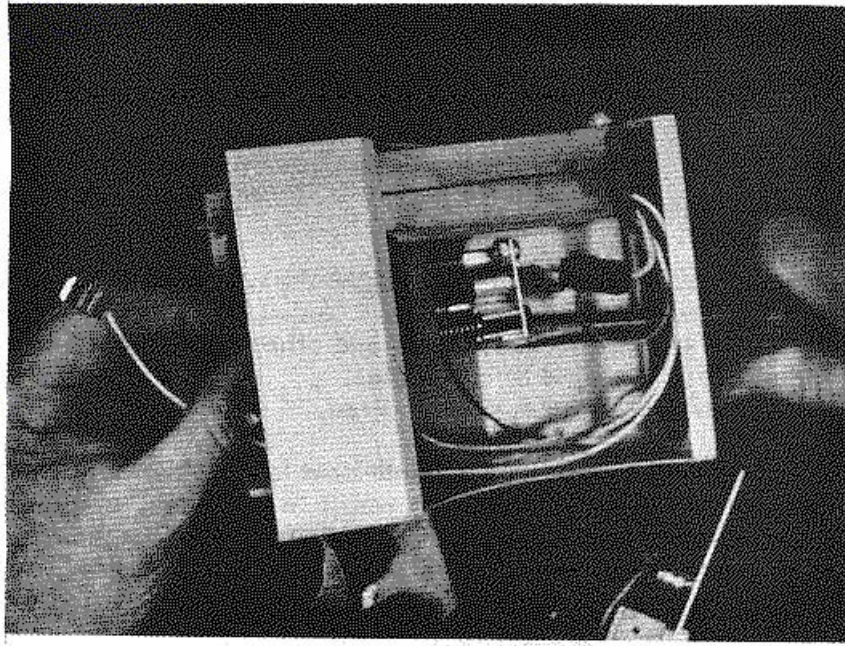

Figure 5-1. Removing Flash Tube.
- e) Insert thick-bladed screwdriver into slot of tube clamp and pry open only enough to withdraw the flash tube out the front end. Avoid opening so far that the clamp is "sprung", for it will not grip the new tube securely. (See Fig. 5-1.)